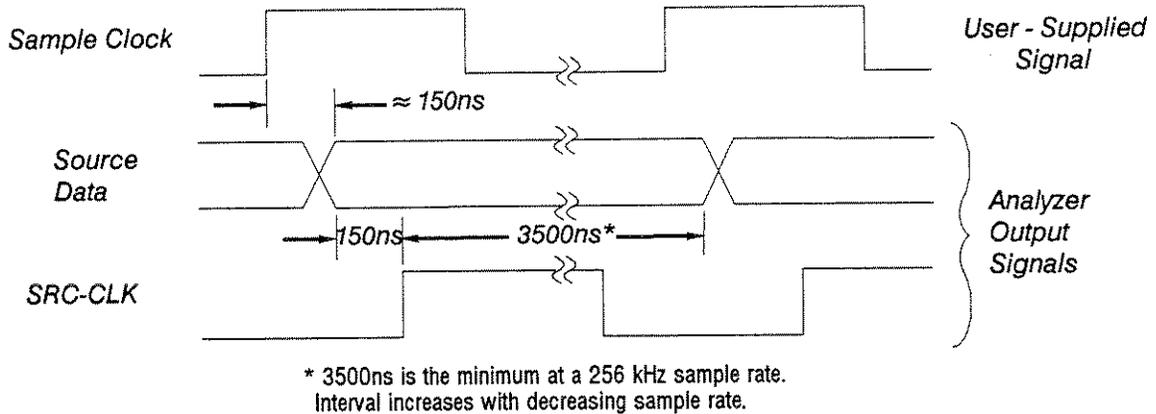

Figure 13-17. Source Timing Diagram
Source data is valid at every occurrence of the sample clock. See figure 13-17. Source data is updated at the effective sample rate of $1/\Delta t$ where Δt appears in the state display. Source data becomes valid approximately 150 ns after the transition sample clock period (+ transition of Ext. Sample, or the selected transition of the channel clock or the Pod Q-Clk). An output signal on Pod X (SRC-CLK) indicates valid source data. This signal may be used to clock new source data into a register on the system under test. See also the SRC-CLK description under Pod X.
The digital source updates are triggered by the sample clock. The source clock which appears on Pod X as SRC-CLK is a “data-valid” signal that may be used to latch data into a circuit outside the analyzer. See figure 13-17. Source data becomes valid approximately 150 ns after the transition of the sample clock and is valid for the entire sample period.
- SRC-CLK** Source Clock is an analyzer output that indicates (on its rising edge) when source data becomes valid. The source clock signal becomes active (high) approximately 150 ns after the source data is valid, which occurs 100 to 200 ns after the sample clock edge. The source clock rising edge occurs once per sample period. Data remains valid beyond the falling edge. See figure 13-17 for timing information.